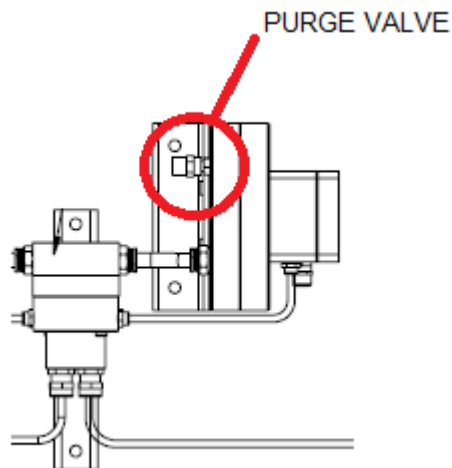

FIGURE 5-5 PURGE VALVE ON REFERENCE SENSOR
- 8 Open the purge valve on the fluid expansion chamber (Figure 5-5).
- 14 Close the purge valve (Figure 5-5) on the fluid expansion chamber.